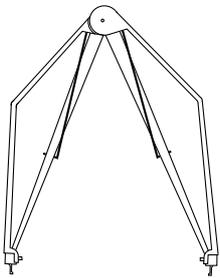

Fig. 1
- 3 • Using a PLCC removal tool, carefully remove the relevant A/D converter, (fig. 1).